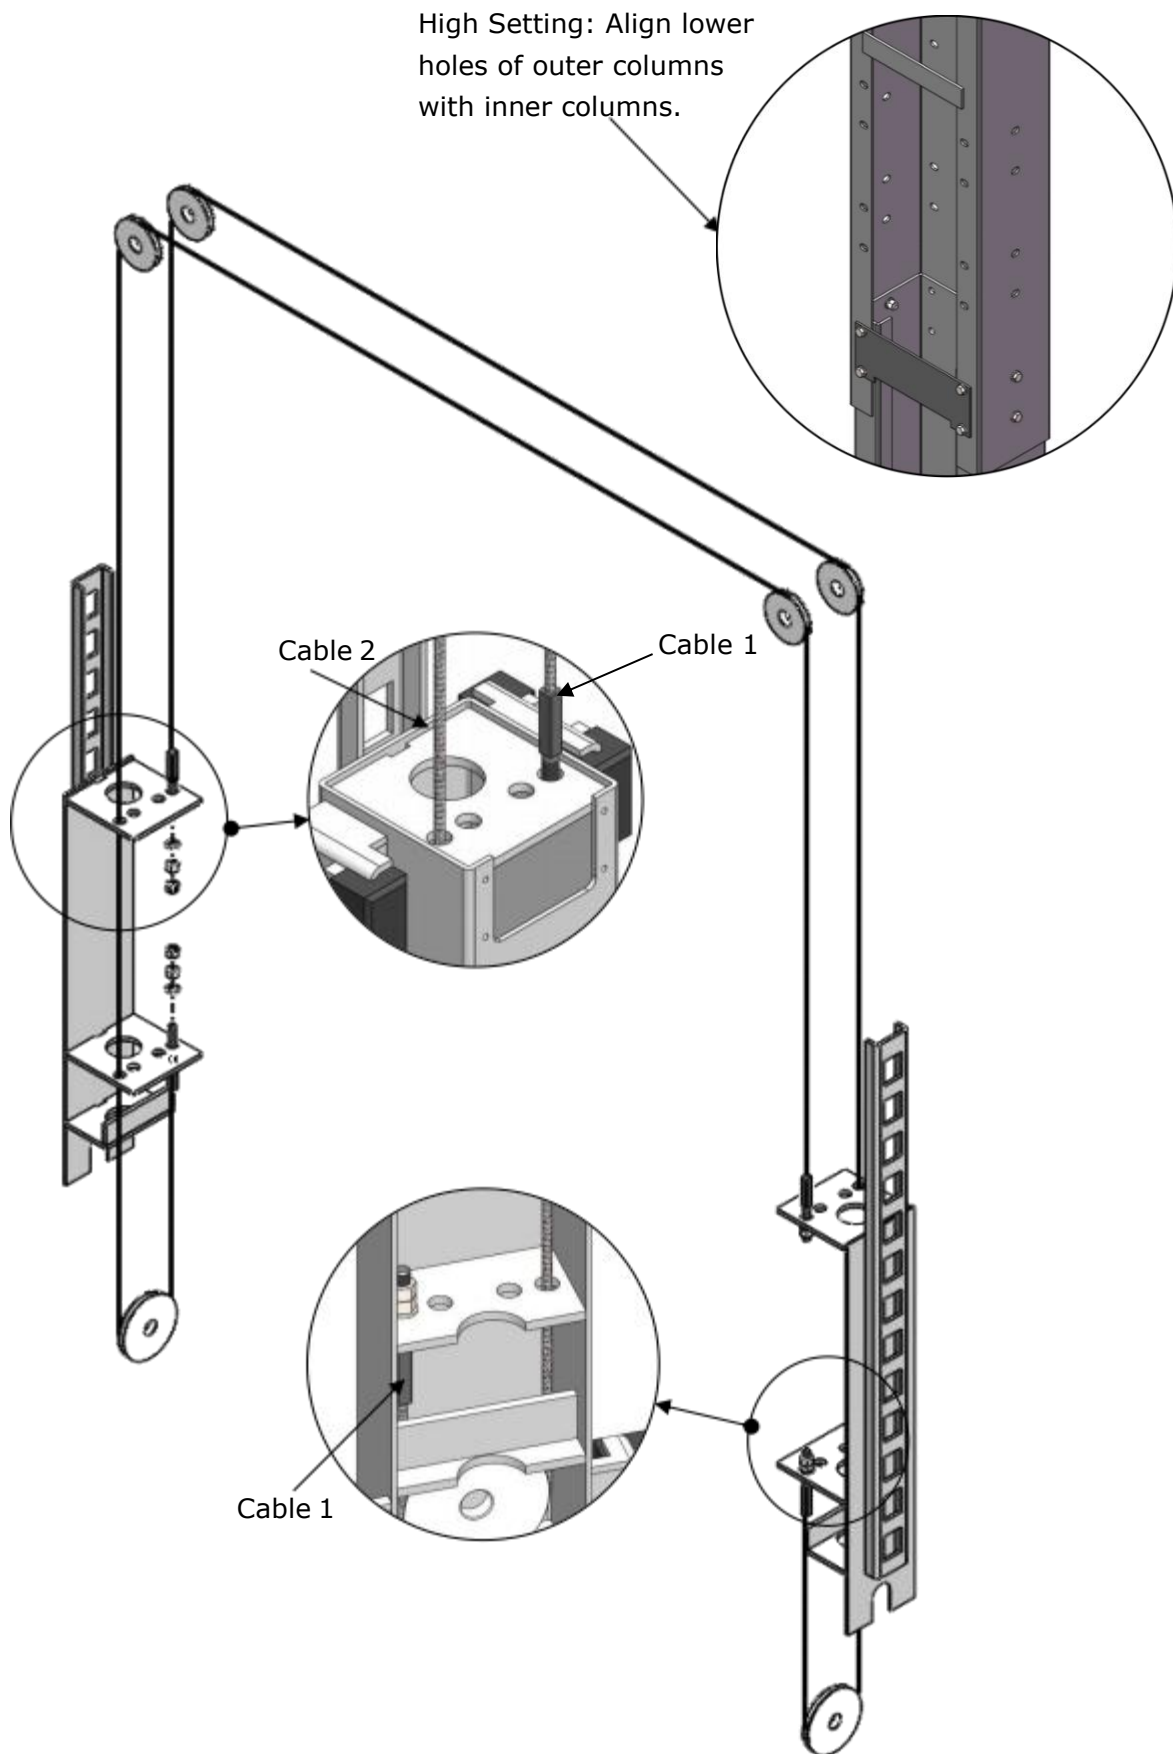

Fig.29
1.2 Connecting sync cable for high setting (See Fig. 29)